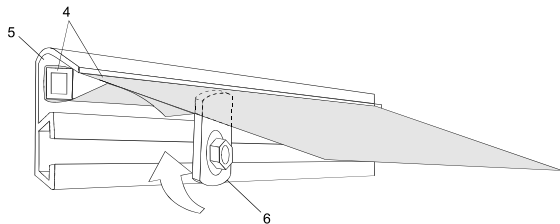

Fig. 17
6. Beginning at one end, push the square rod and rod pocket (4) into the slot (5) in the upper part of the rear roof track (see Fig. 17.).